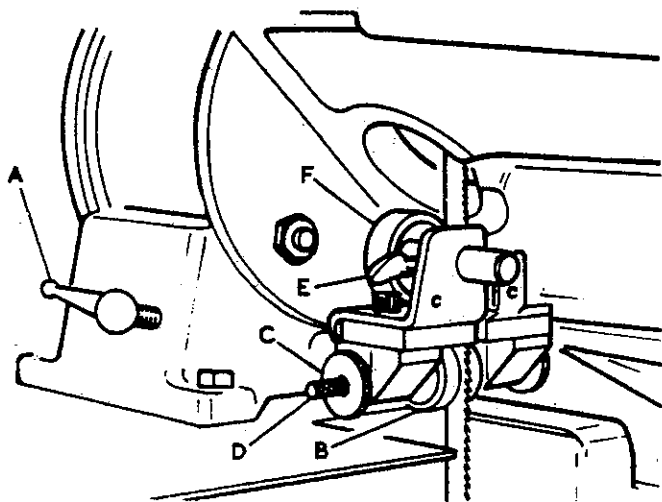

FIG.8
3. Remove sawguard and move the top and bottom guides to the extreme rear position by loosening locking screws 'A' for top guide (Fig. 6) and 'A' for bottom guide (Fig. 8).
1. Bring guide assembly forward by loosening ball lever screw 'A' in Fig. 8 until side roller guides 'B' are positioned just behind the gullet of the sawblade.